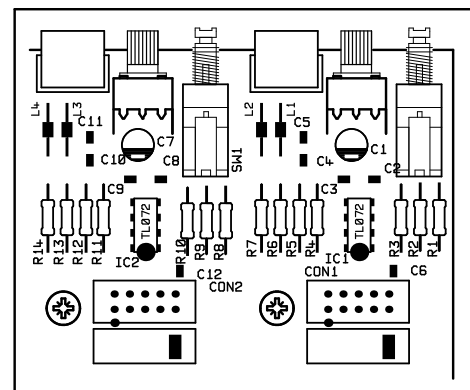

Fig 8
3. Select the required PCB mounted VCA connector and remove its jumper (see list below & Fig 8)